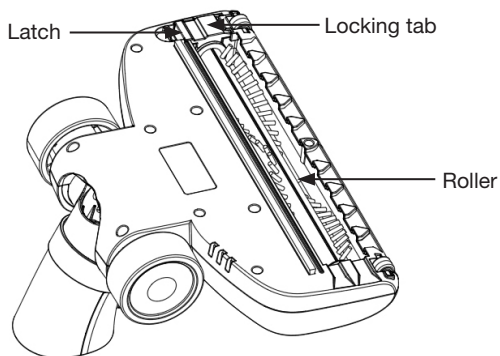
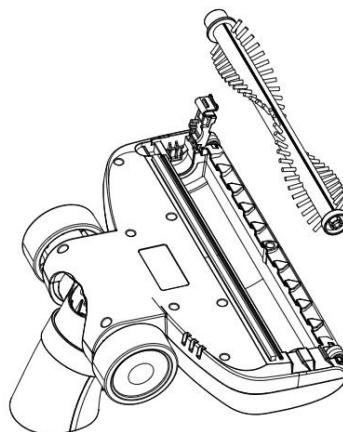

Fig. 15
Fig. 16
2. Turn the powered brush over (Fig. 15).
3. Press the latch and lift up the locking tab (Fig. 15): this will allow you to extract the roller from its housing (Fig. 16).